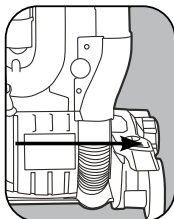

Fig. 3
1. To turn the vacuum on, push the power pedal on the right side of the vacuum nozzle from the user's perspective (Fig. 3).